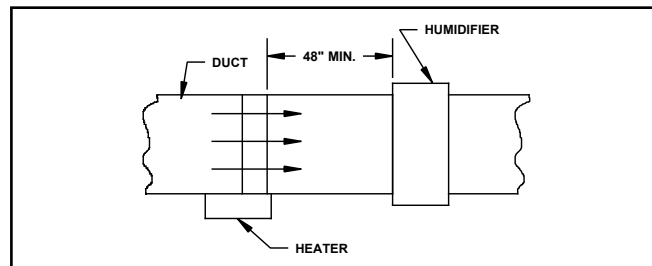

FIGURE 3.1.5 PLACEMENT: HUMIDIFIER REQUIREMENTS
9. Always locate the heater at least 48" upstream from a humidifier. (See Figure 3.1.5)